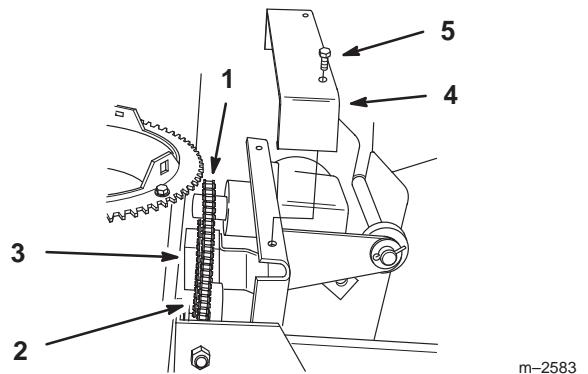

Figure 3
4. Place drive chain on gearbox and large sprockets (Fig. 3).
5. Adjust chain tension block so chain deflects $3/8"$ to $5/8"$ between sprockets (Fig. 3).
6. Install chain cover with (2) 1/4 x 1/2" bolts (Fig. 3).